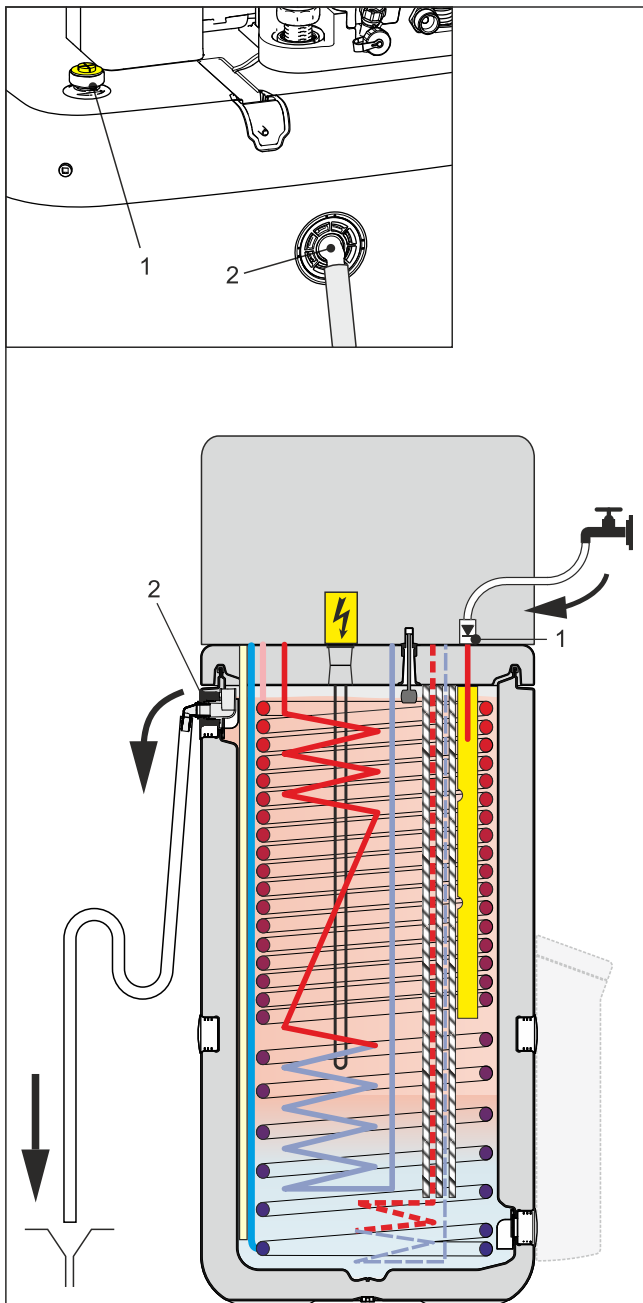

Fig. 3-48 Filling the buffer tank - without connected DrainBack solar system
- 1 Connect the **filling hose** with non-return valve (1/2") to the **"Solar inflow"** connection (Fig. 3-48, item 1).
- 2 **Fill** the storage tank of the indoor unit **until water** escapes from the **overflow connection** (Fig. 3-48, item 2).
- 3 **Fill** the storage tank of the indoor unit **until water** escapes from the **overflow connection** (Fig. 3-48, item 2).